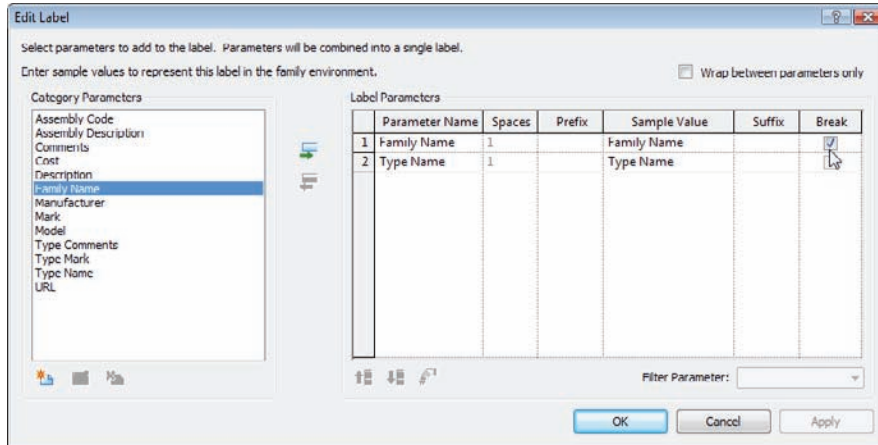

FIGURE 11.89 This time you're actually adding two parameters. By selecting the Break check box, you tell Revit to stack the parameters.
6. In the Edit Label dialog, add the Family Name and Type Name parameters, as shown in Figure 11.89.
7. In the Family Name row, select the Break check box (see Figure 11.89).